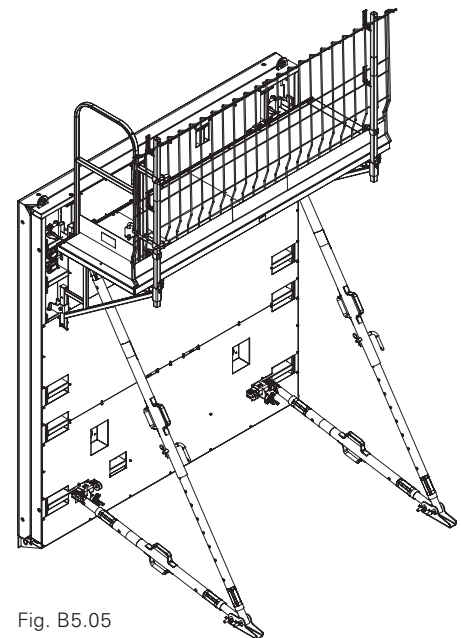

Fig. B5.05
- Stopend Guardrail MXK is now mounted. (Fig. B5.05)